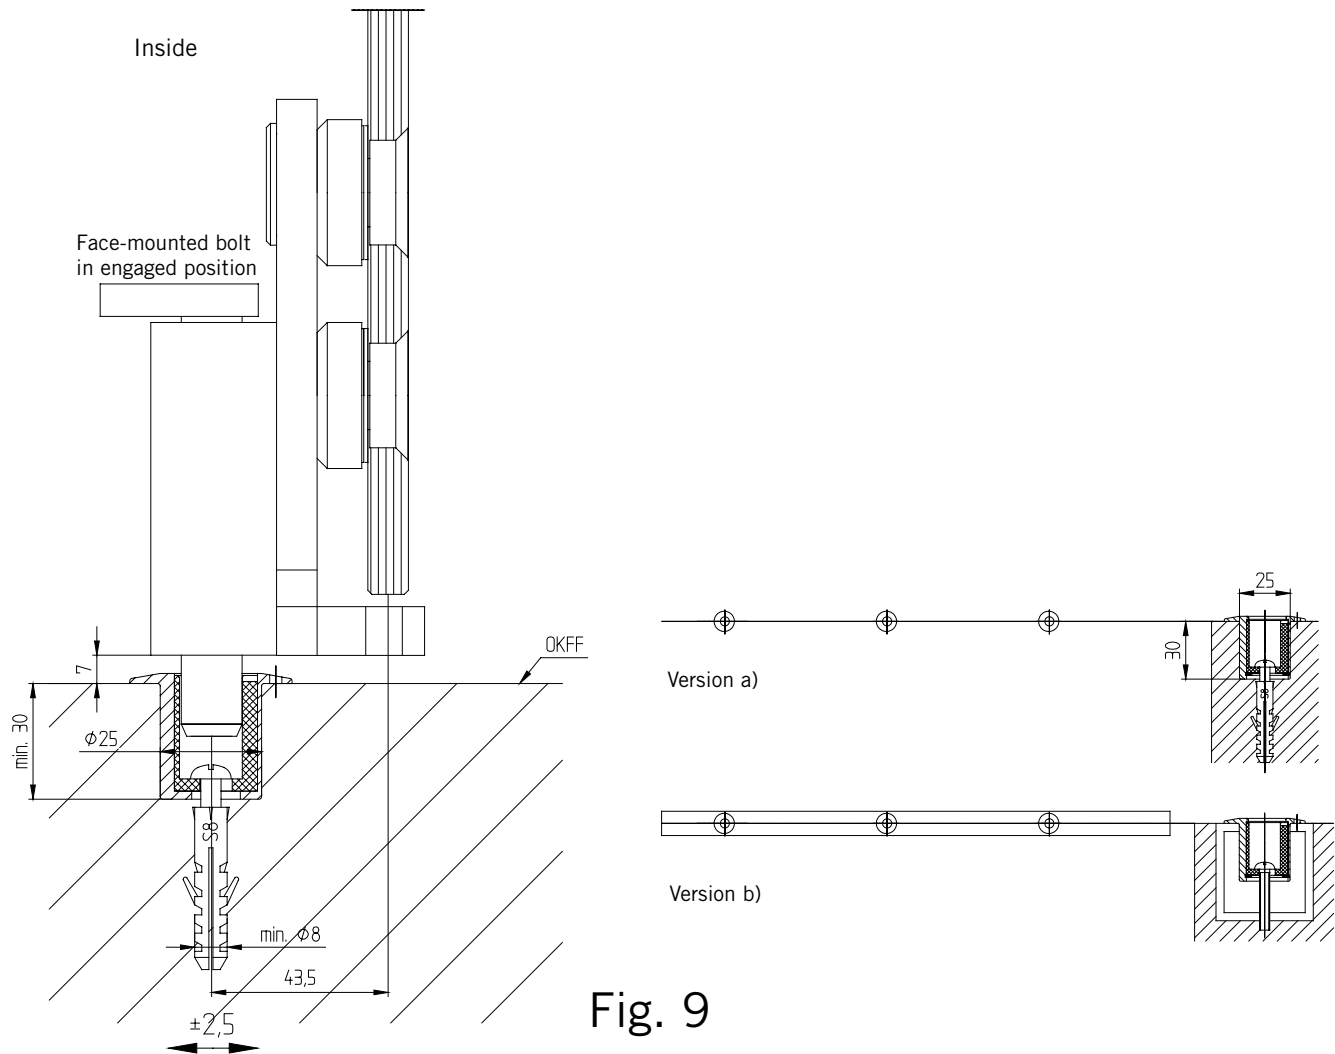

Fig. 9
9. Installing the eccentric sockets (Fig. 9):